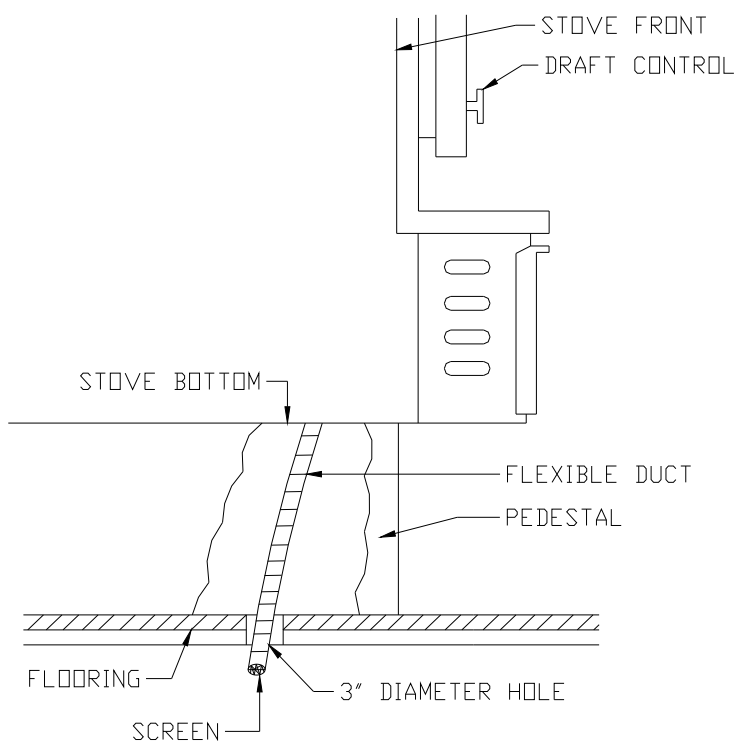

FIGURE 11
C) Attach the flexible duct to the air pipe opening, as shown in FIGURE 11, then attach the pedestal to the bottom of the stove, if it is being used.